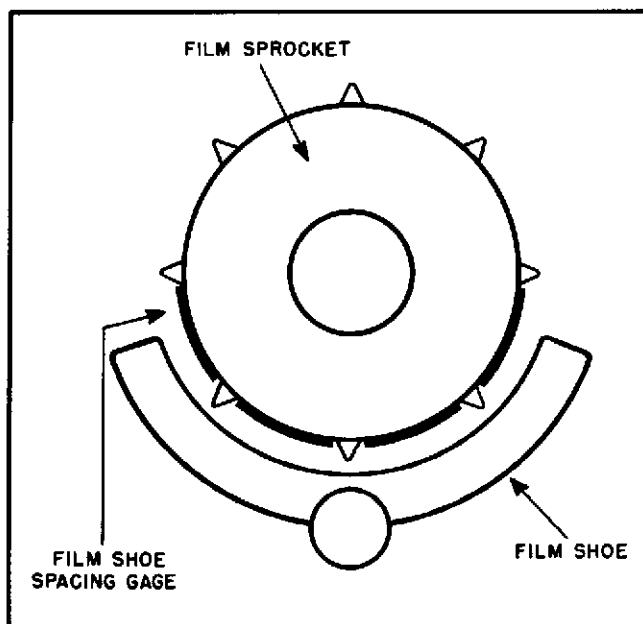

Figure 2-30. Using Film Clearance Gage
f. Mount film shoes (24) either under or over sprocket as required, with two screws (25) and lock washers (26). Do not tighten screws. Raise film shoe away from sprocket and insert film clearance gage (Tool Number S-061081-N16) between sprocket and shoe as shown in figure 2-30. Close film shoe against gage and tighten screws (25) securely. Open film shoe and remove gage. Repeat procedure for all three film shoes. Attach film strippers (21) with the screws (22) and